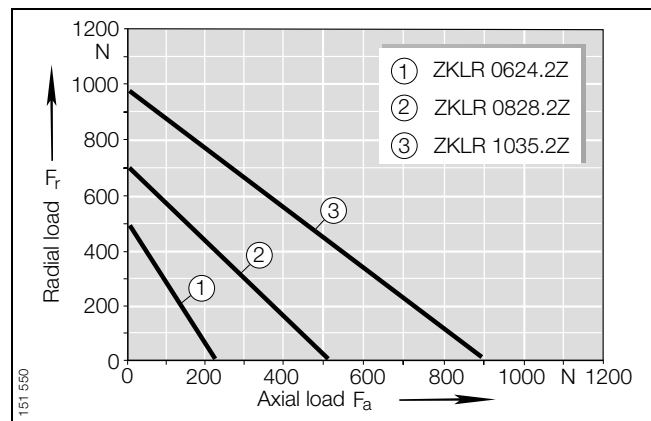

Figure 1 · Static limiting load diagram for ZKLR 0624.2Z, ZKLR 0828.2Z, ZKLR 1035.2Z
- Static limiting load diagrams (Figures 1 and 2)
The easy-to-use diagrams for the static limiting load (Figures 1 and 2) allow quick verification of the correct bearing size – regardless of the axial and radial operating loads. The deciding factor is that the intersection of axial load and radial load must lie below the curve for the selected bearing.